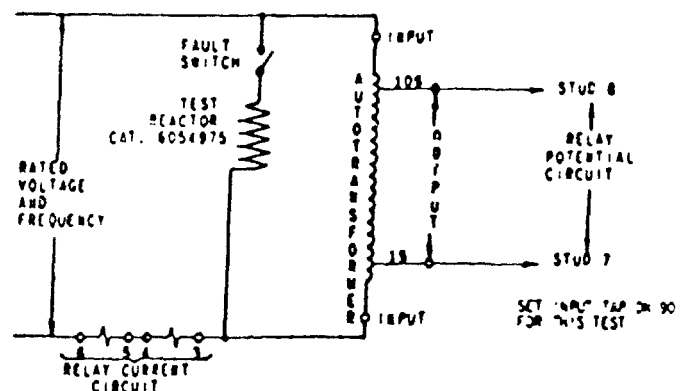

Fig. 13 (402A959-1) Test Connections For Type CEH11A Relay Using Test Box 102L201
1. Connect the relay as shown in Fig. 13.